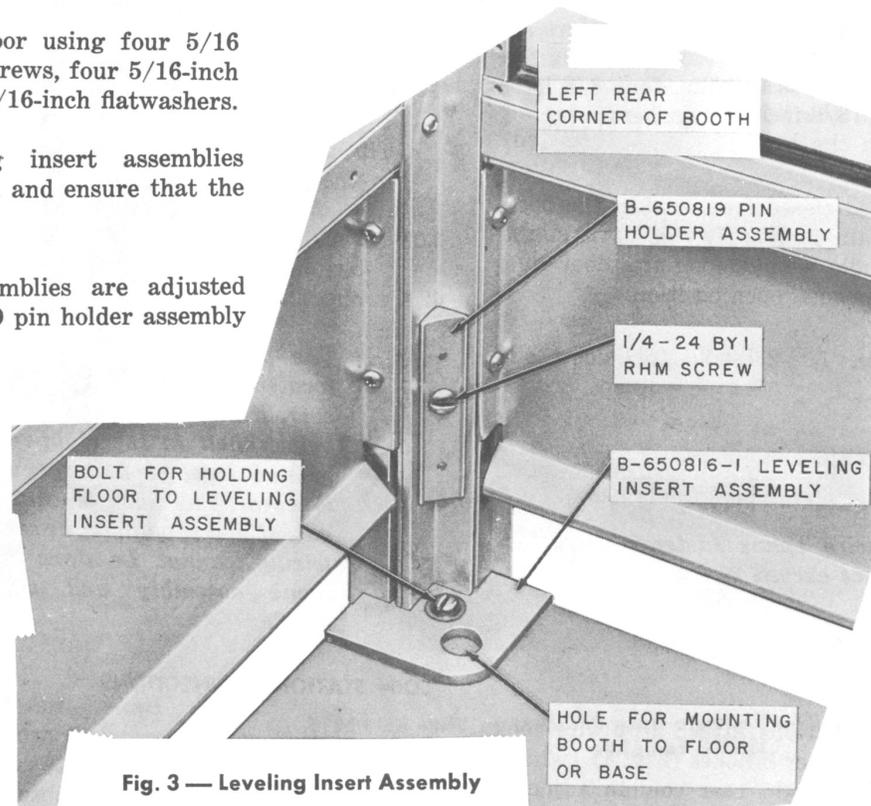

Fig. 3 — Leveling Insert Assembly
- (a) If a KS-19425, List 10 foundation template is used, remove insert plugs from template and secure leveling insert assemblies (Fig. 3) of booth to template using four $3/8$ -16 by 1-1/4 hex head bolts, four $3/8$ lockwashers and four $3/8$ -inch flatwashers.
(d) Adjust the leveling insert assemblies (Fig. 3) if necessary, and ensure that the booth is level.